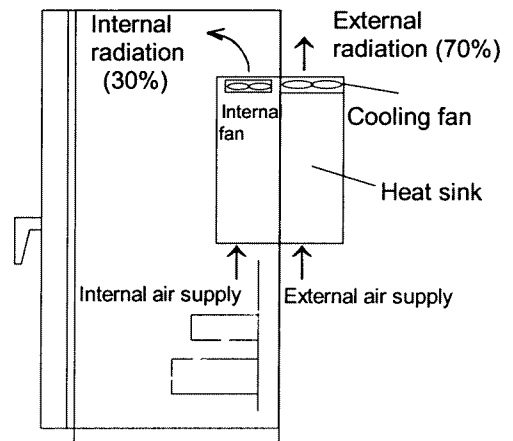

Fig.2-2-2
- ④ When installing this product in a control panel, consider ventilation to prevent ambient temperature of the inverter from exceeding the specified value. Do not install the product in an area from which heat cannot be sufficiently released.
- ⑤ If two or more inverters must be installed in the same device or control panel, arrange the units horizontally to minimize the effect of heat. If two or more inverters must be installed vertically, place an insulated plate between the inverters to minimize the effect of heat.
- ⑥ When shipped from the factory, inverters are internal cooling type inside panel. An inverter of 30HP or less can be converted to an external cooling type simply by adding an optional mounting adapter. An inverter of 40HP or more can be converted simply by moving mounting adapter. In an external cooling system, a heat sink radiating about 70% of total inverter heat (total loss) can be placed outside the device or control panel. Ensure that heat sink surfaces are kept free of foreign matter (lint, Fig. 2-2-2 External cooling system moist dust particles etc.).